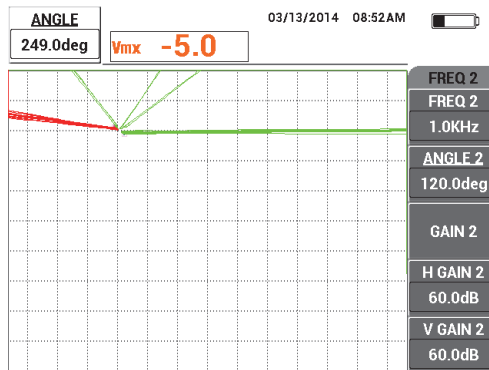

Figure 5-101 Adjusting the angle of the frequency 1 lift-off signal
- Lift the probe into the air, then begin to gently tap the probe on position 1 of the standard, and, while tapping, press the ANGLE key () and then adjust the ANGLE (for frequency 1) until the lift-off signal is oriented towards the right side of the screen (the green signal in Figure 5-101 on page 199).